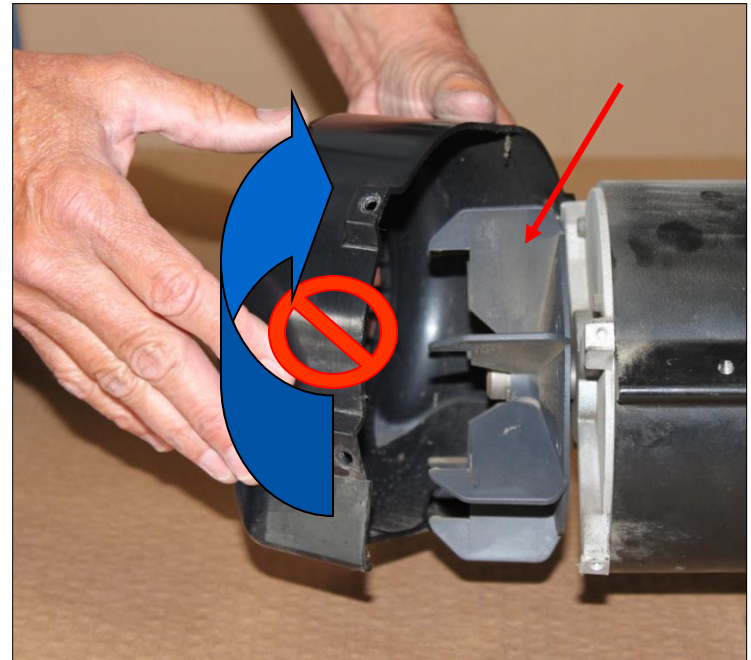

Figure 76
12. Remove the fan Shroud as shown (fig 76).